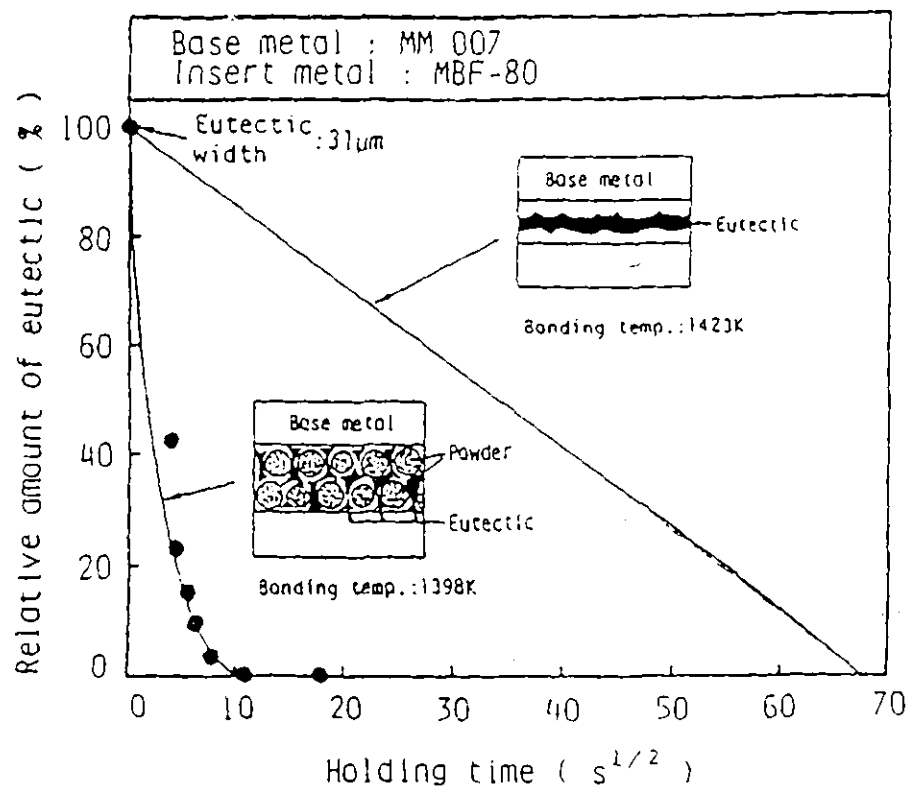

Figure 3
- ii) Figure 3 shows the relation between the relative amount of eutectic and the holding time at the bonding temperature a) during conventional TLP-bonding using a 30 μm thick Ni-B interlayer, b) during wide-gap brazing when a mixture of powdered Ni-base superalloy material and a Ni-B interlayer are introduced prior to bonding. Explain a) why the bonding operation is completed so much faster during wide-gap brazing and b) why the grain orientations are so different in joints quenched to room temperature part way through each bonding operation